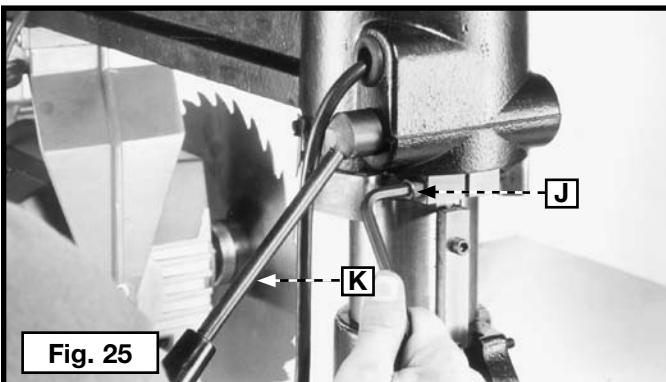
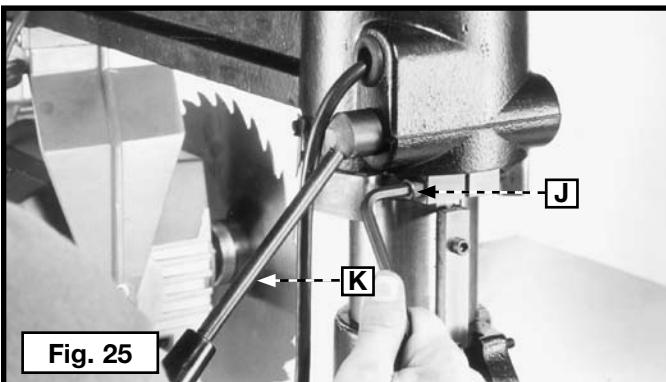
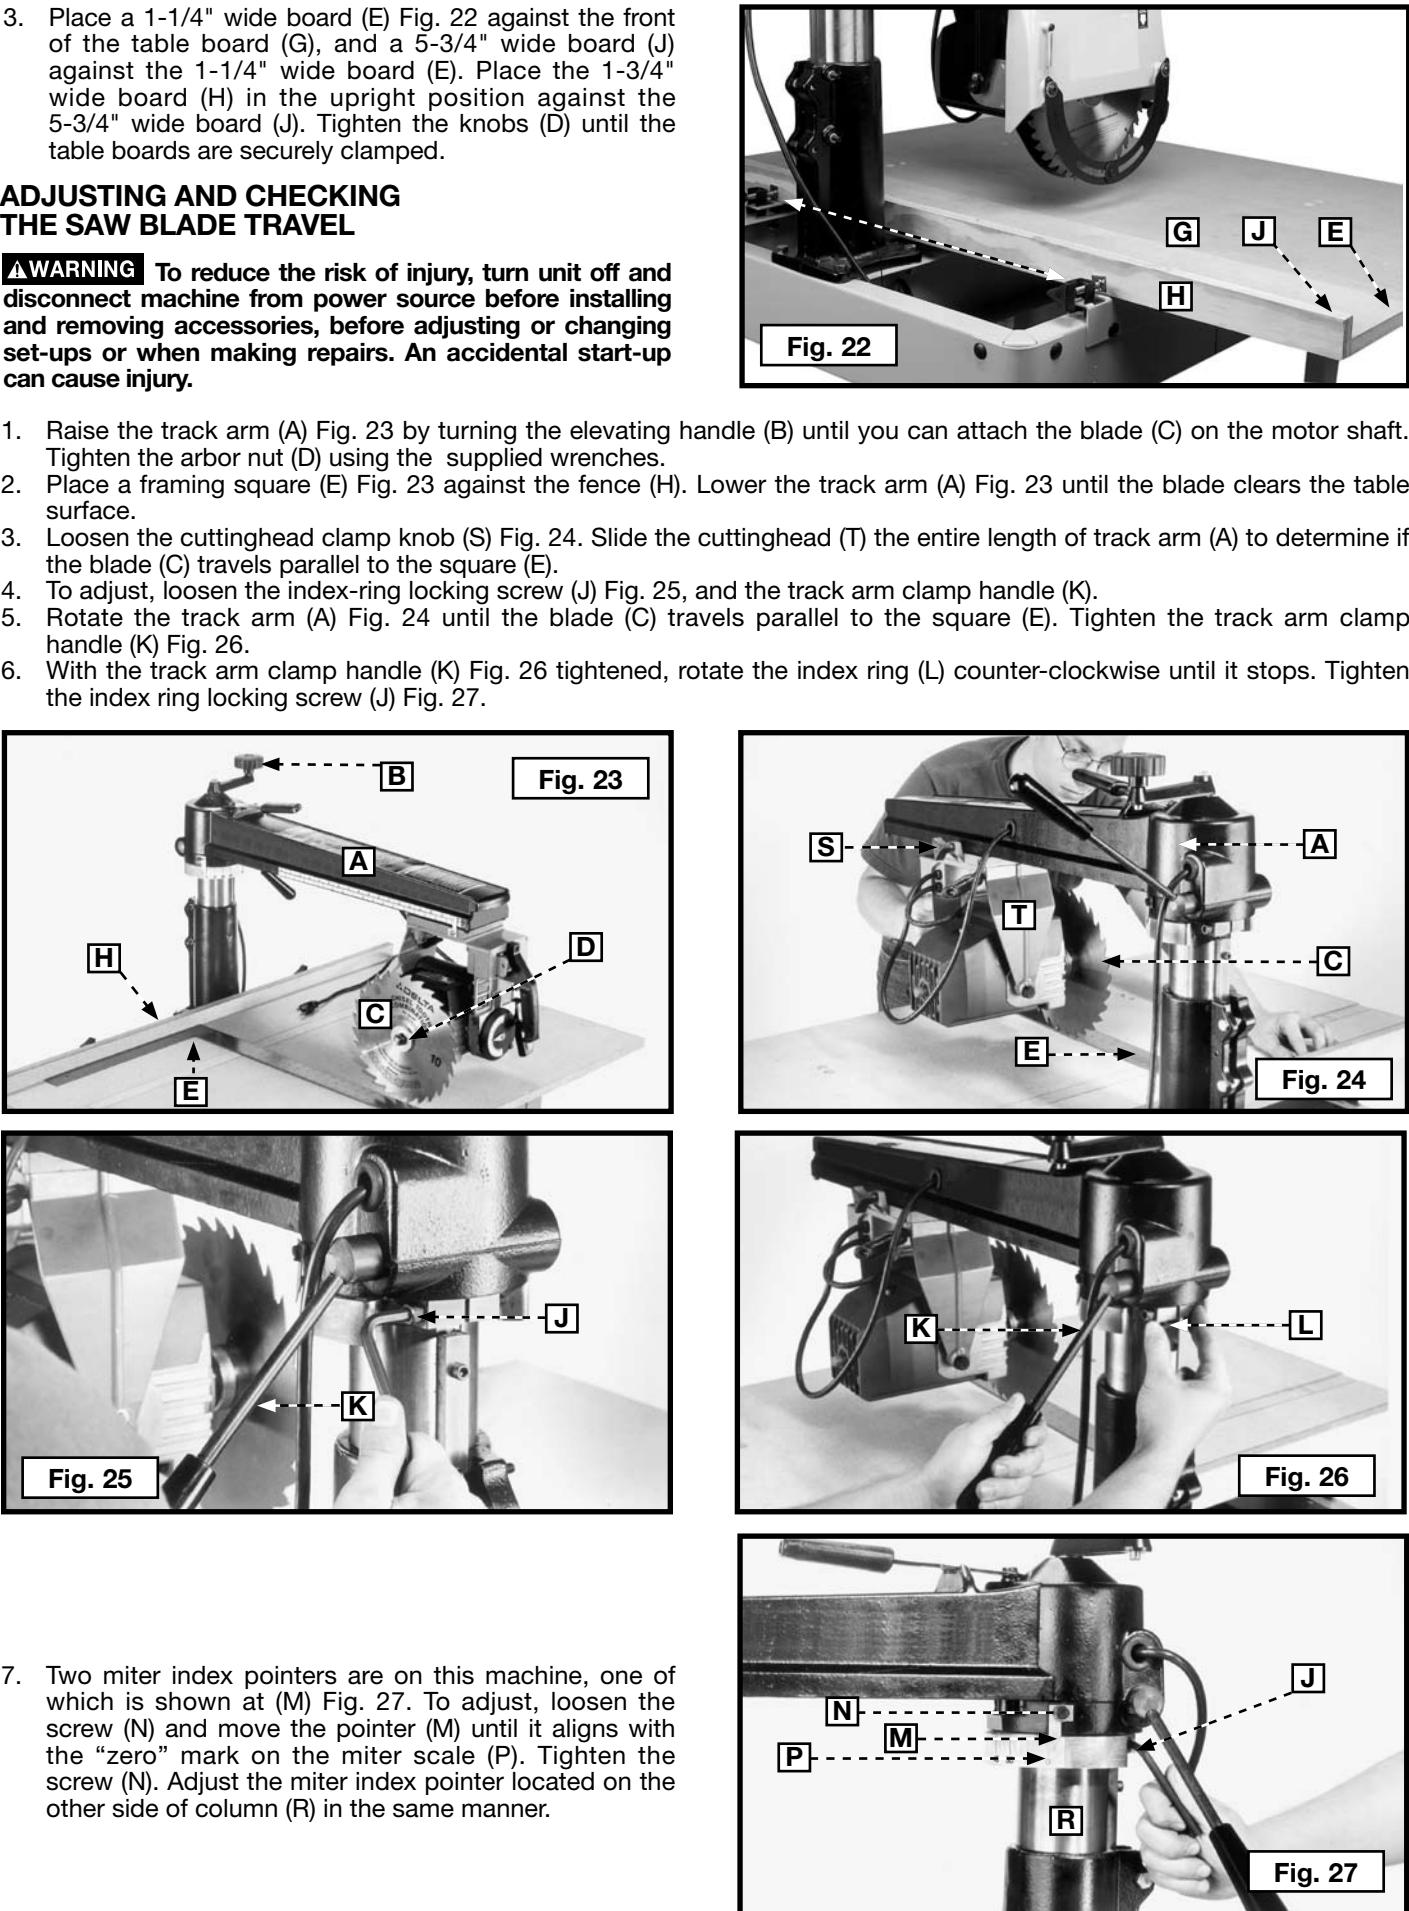

Fig. 24
Fig. 26
Fig. 27
- Loosen the cuttinghead clamp knob (S) Fig. 24. Slide the cuttinghead (T) the entire length of track arm (A) to determine if the blade (C) travels parallel to the square (E).
- Rotate the track arm (A) Fig. 24 until the blade (C) travels parallel to the square (E). Tighten the track arm clamp handle (K) Fig. 26.
- With the track arm clamp handle (K) Fig. 26 tightened, rotate the index ring (L) counter-clockwise until it stops. Tighten the index ring locking screw (J) Fig. 27.
- Two miter index pointers are on this machine, one of which is shown at (M) Fig. 27. To adjust, loosen the screw (N) and move the pointer (M) until it aligns with the "zero" mark on the miter scale (P). Tighten the screw (N). Adjust the miter index pointer located on the other side of column (R) in the same manner.